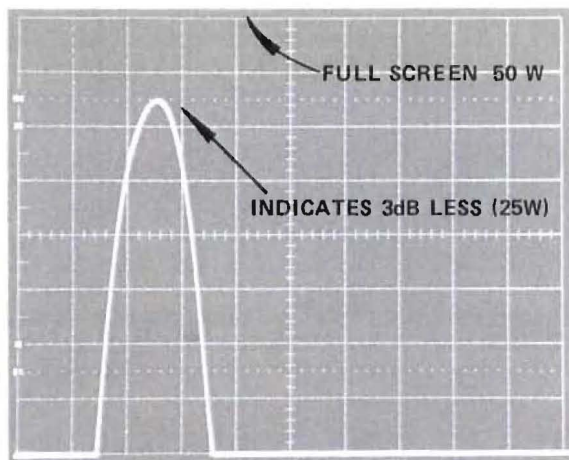

Figure 11 Calculating Power Output
6. Power is determined by assuming the full screen display to be the value of the load-matching combination. Switch to the 2 dB/DIV mode and note the number of dB down from the top graticule line, as shown in Figure 11. This is the power output in dB below the full screen display and can be converted directly to watts.